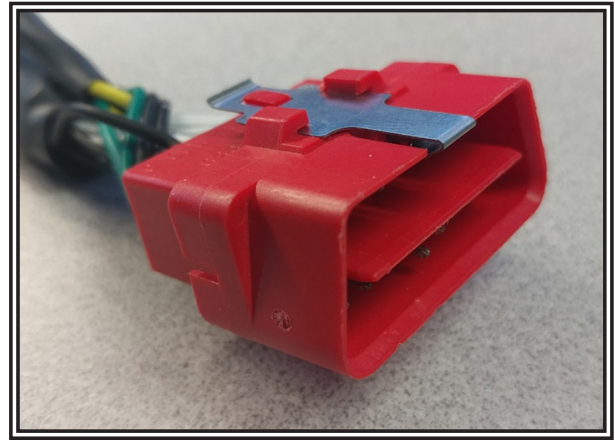

Figure 1
Step 1. Attach the locking clip that is included in the kit to the OBDII Harness connector that mates with the OEM OBD connection point, as seen in FIGURE 1.